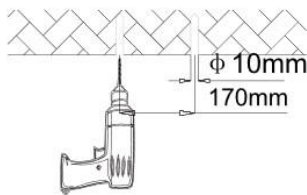

Figure 1-1
1. Mount to the wall using the mounting bracket as a template and then drill holes. (Figure 1-1)